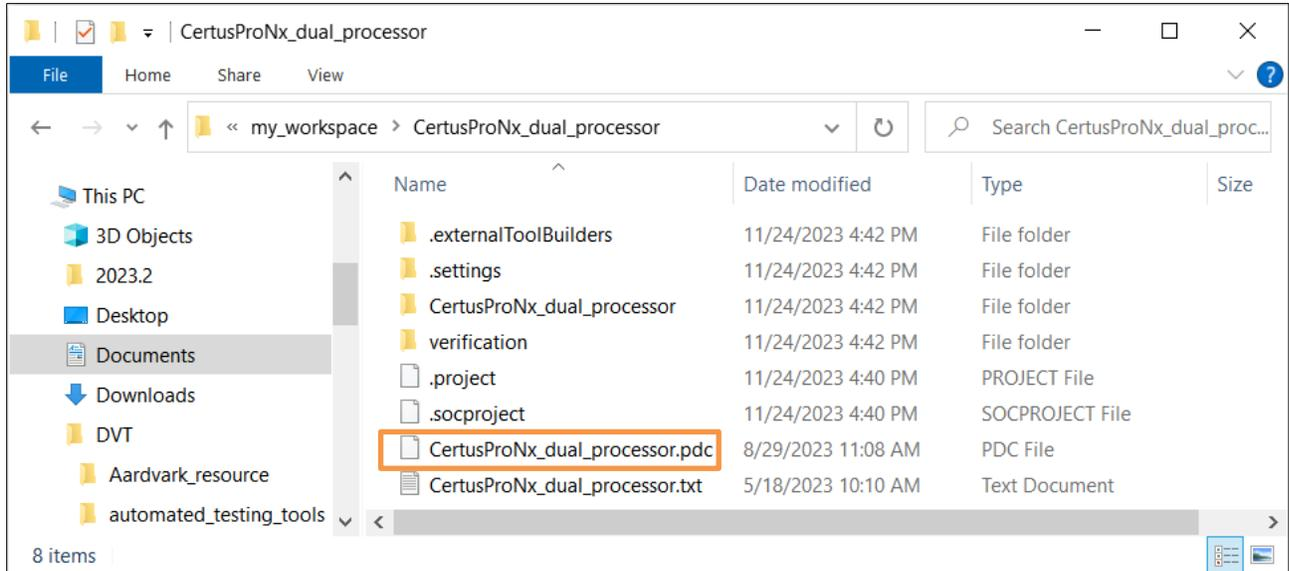

Figure 5.7. Constraint File in Source Project
- a. If the SoC is on board level, copy the Radiant constraint file from the source project (Figure 5.7). The path is `<workspace>/<project_dir>/<project_name>.pdc`.